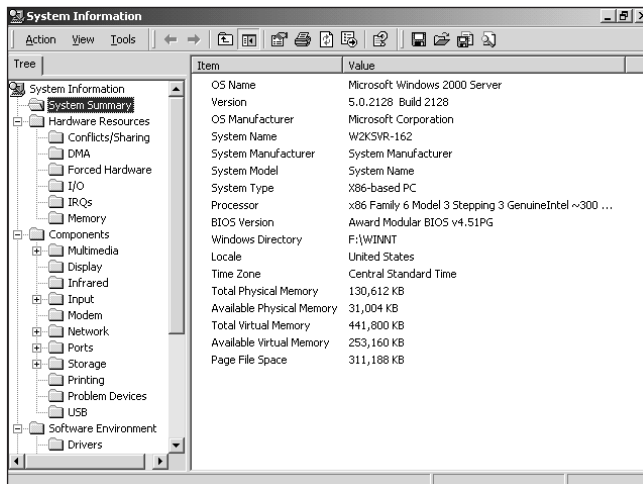

Figure 5-17 The MSInfo32 utility provides a complete list of system information
1. Double-click the **Msinfo32.exe** icon to launch the Msinfo32 utility. See Figure 5-17.